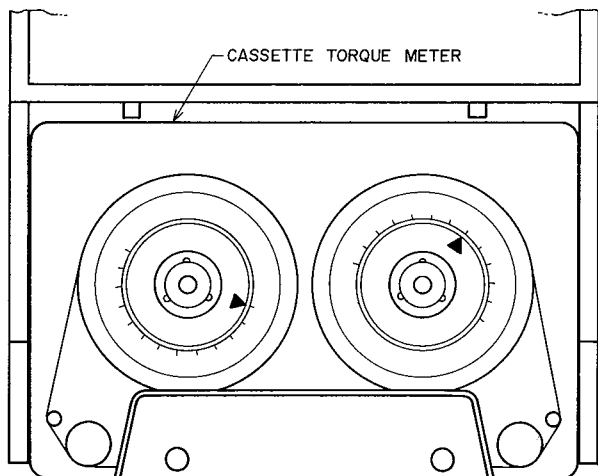

Fig. 15
12. TAKE-UP TORQUE AT VARIOUS MODES AND TORQUE MEASURING METHOD (Refer to Fig. 15)
As shown in Fig. 15, set a cassette torque meter to the cassette base. Take a reading of the ▲ mark indication at each respective mode (Fwd, F.FWD, and Rwd).